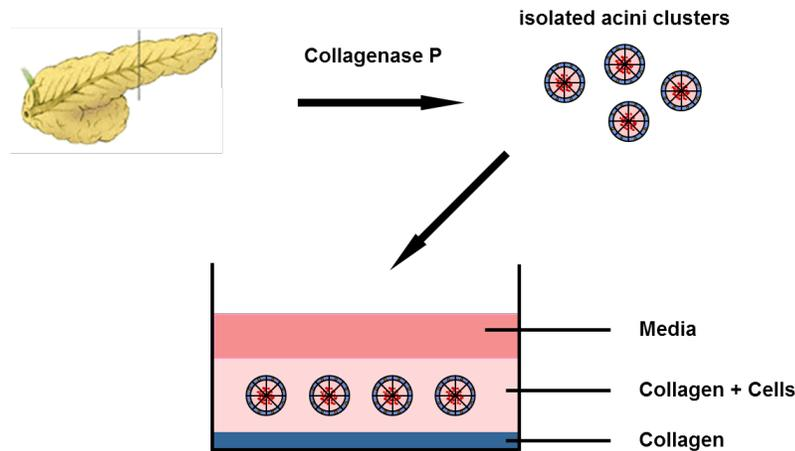

Figure 1. 3D-culture setup
21. Immediately plate the cell suspension in the collagen-coated wells, 0.5 ml/well (see Figure 1).